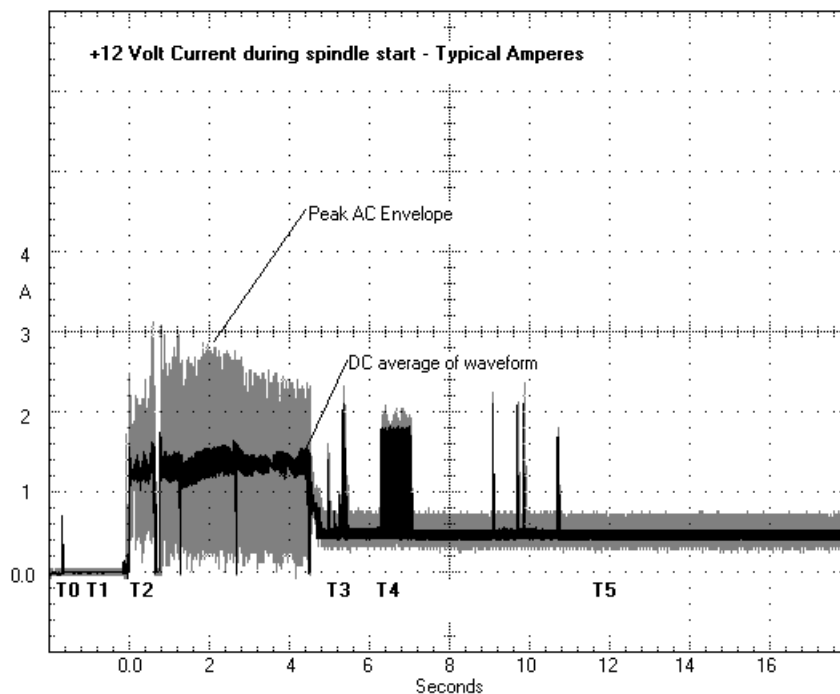

Figure 3. Typical ST3146807FC drive +12V current profile
- [3] See +12V current profile in Figure 3.
Figures 3, 4 and 5 identify the drive +12V current profiles for each model ST3146807FC, ST3733307FC and ST336607FC, respectively. The current during the various times is as shown: